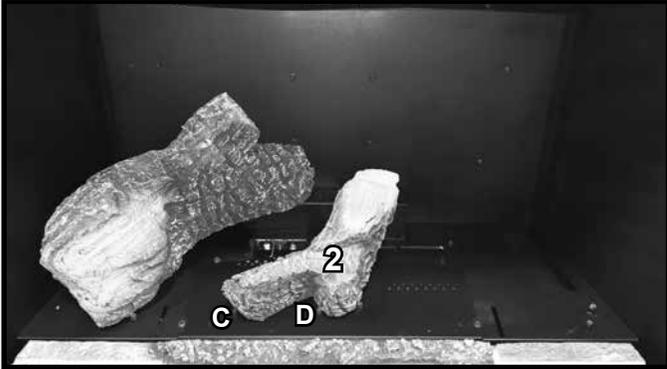

Figure 20 Log #2 Installed
**LOG #2:** The short side of the Y on Log #2 will sit between log pins D and E, the long end of the Y will sit against log pin C. The opposite end of Log #2 will sit on the air scoop. See Figure 20.